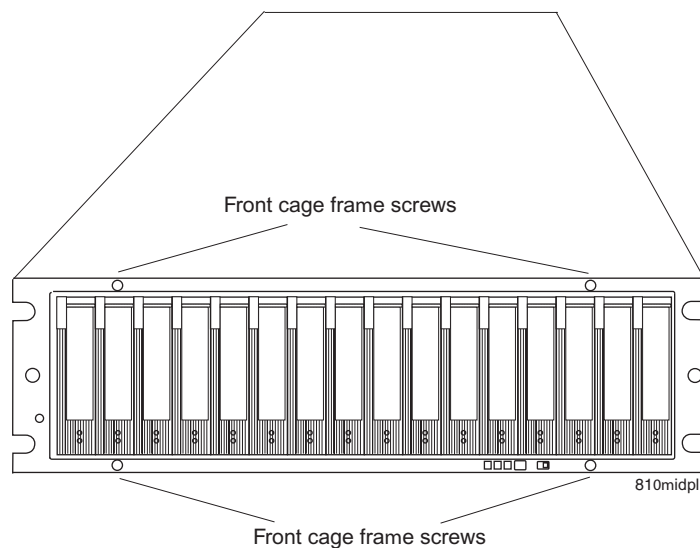

Figure 86. Front cage frame screw locations
9. Use a #1 Phillips screwdriver to loosen the four front cage frame screws on the midplane, as shown in Figure 86.
16. Tighten the four front cage frame screws. See Figure 86 on page 152.